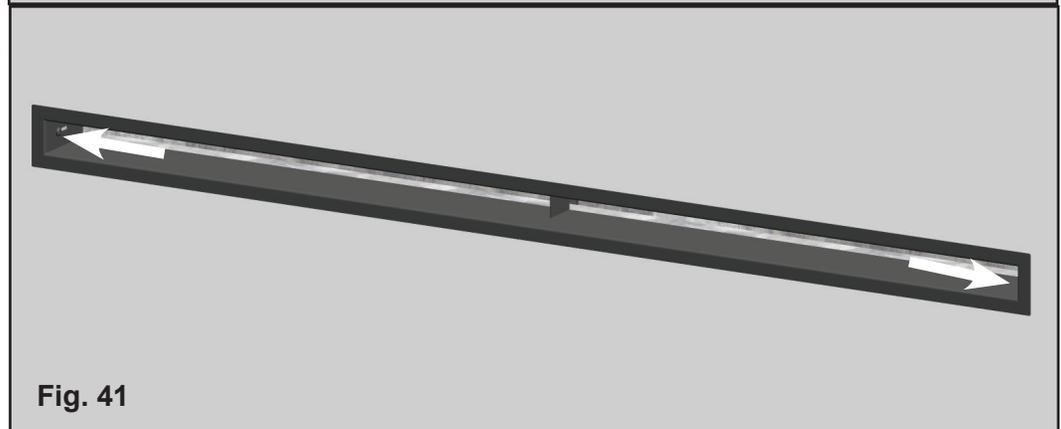

Fig. 41
2. Secure the plenum trim frame using one screw per side and a long robertson bit. (Fig. 41)